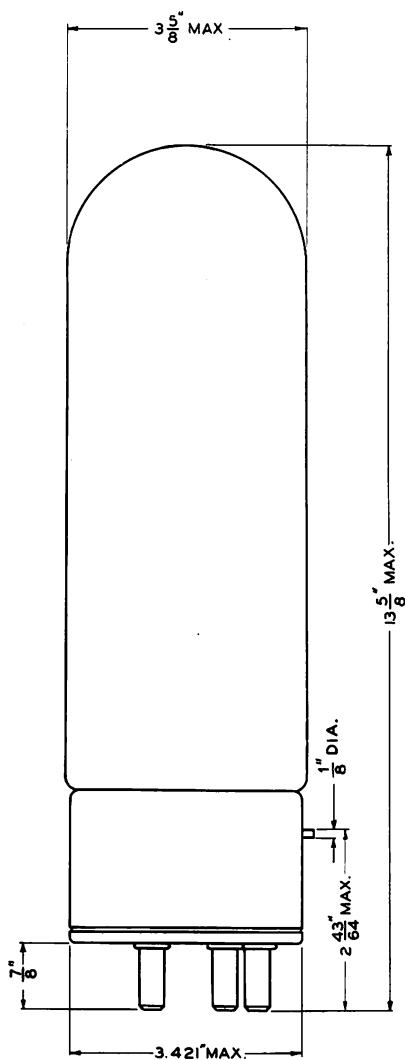

FIG. 1
**Mechanical**—Figures 1 and 2 show the overall dimensions and basing arrangements for the tube.